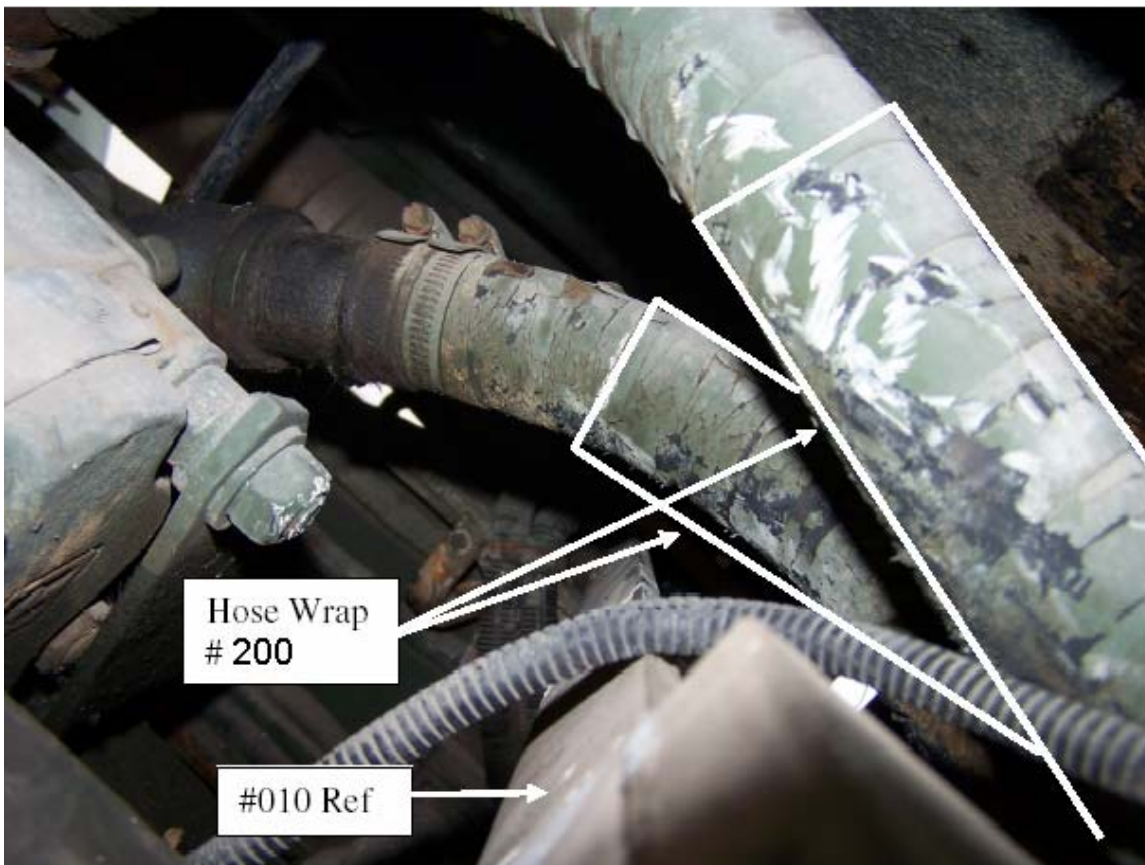

Figure 7-2. Hose Wrap Location.
Parts (see Figure 7-2, 7-3, and 7-4):
3. Install 8" to 9" of protective hose wrap part # 200 to each hose in the area indicated in Figure 7-2. After the cab support is installed, the position of the wrap may be adjusted to provide protection against wear from the support.